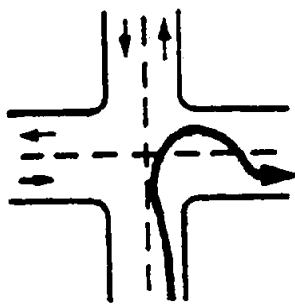

Figure 2-11
- If you are driving a truck or bus that cannot make the right turn without swinging into another lane, turn wide as you complete the turn, as shown in Figure 2-11. Keep the rear of your vehicle close to the curb. This will stop other drivers from passing you on the right.